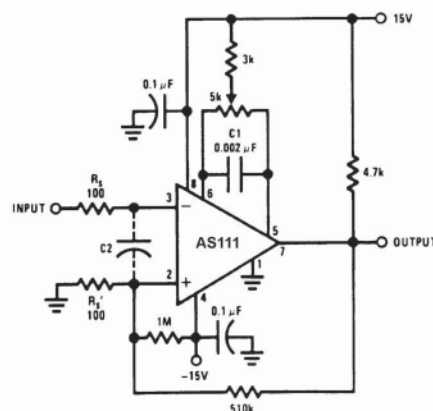

FIGURE 2. Conventional Positive Feedback
6. It is a standard procedure to use hysteresis (positive feedback) around a comparator, to prevent oscillation, and to avoid excessive noise on the output because the comparator is a good amplifier for its own noise. In the circuit of Figure 2, the feedback from the output to the positive input will cause about 3 mV of hysteresis. However, if  $R_S$  is larger than  $100\Omega$ , such as  $50\text{ k}\Omega$ , it would not be reasonable to simply increase the value of the positive feedback resistor above  $510\text{ k}\Omega$ . The circuit of Figure 3 could be used, but it is rather awkward. See the notes in paragraph 7 below.